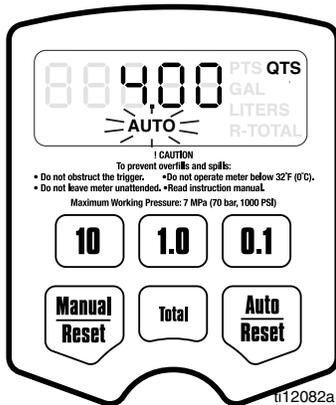

FIG. 26
- d. Press the *Auto / Reset* button again to display the Auto Preset Amount Menu (FIG. 26, page 18). When this menu is displayed, **AUTO** blinks and the currently stored auto preset amount is displayed.
### Auto Preset Amount (Fig. 26)